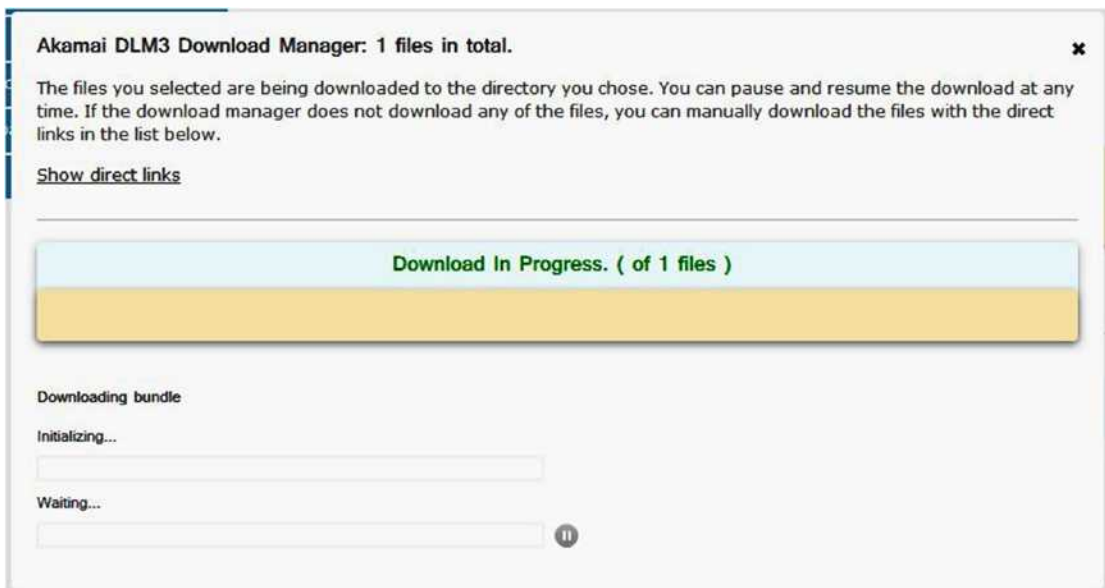
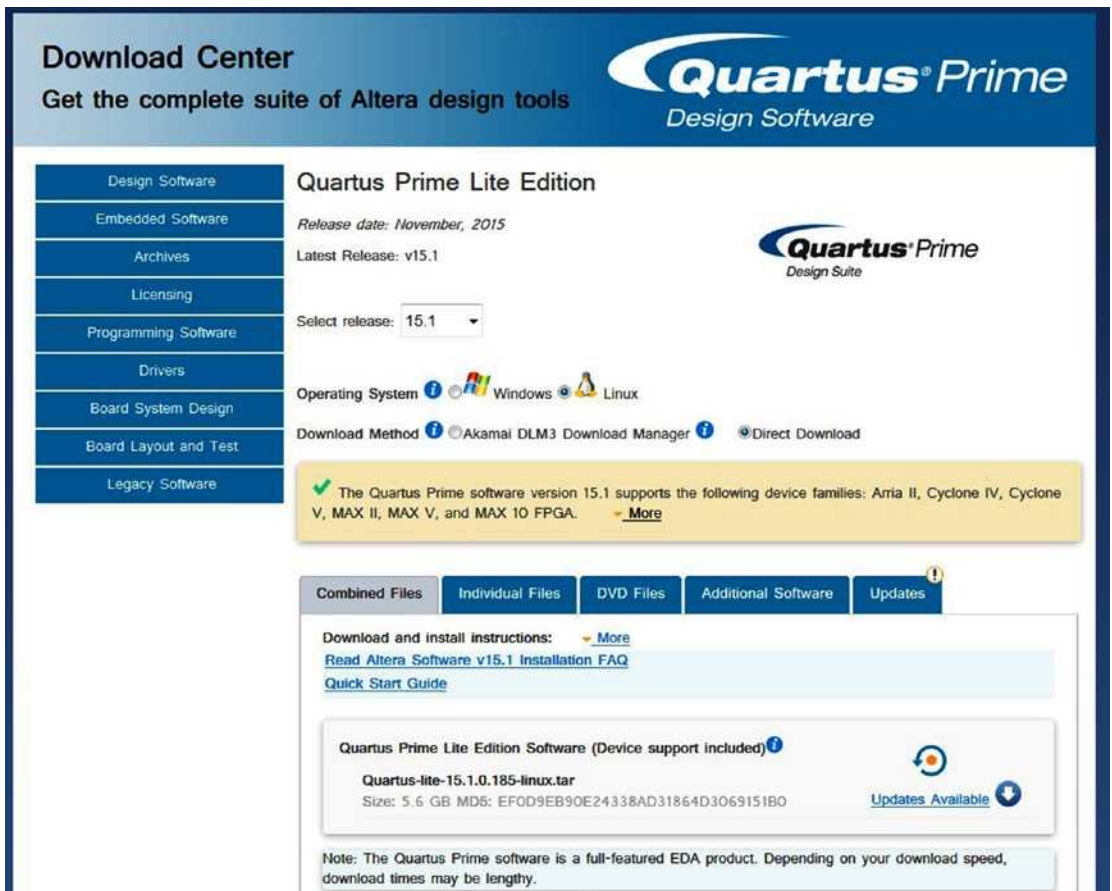

Figure 3-8. Akamai DLM3 Download Manager—Windows only
Figure 3-9. Altera Quartus Prime Lite Edition selection page—Combined Files with Direct Download
4. If everything looks good, then click Download Selected Files either in the Individual Files tab or the Combined Files tab. After you pick a download location and save, the download manager opens and begins the file download process (Figure 3-8). If you cannot use the download manager, select Direct Download and click the download arrow next to each file (Figure 3-9). You may ask for login to myAltera again in this step.